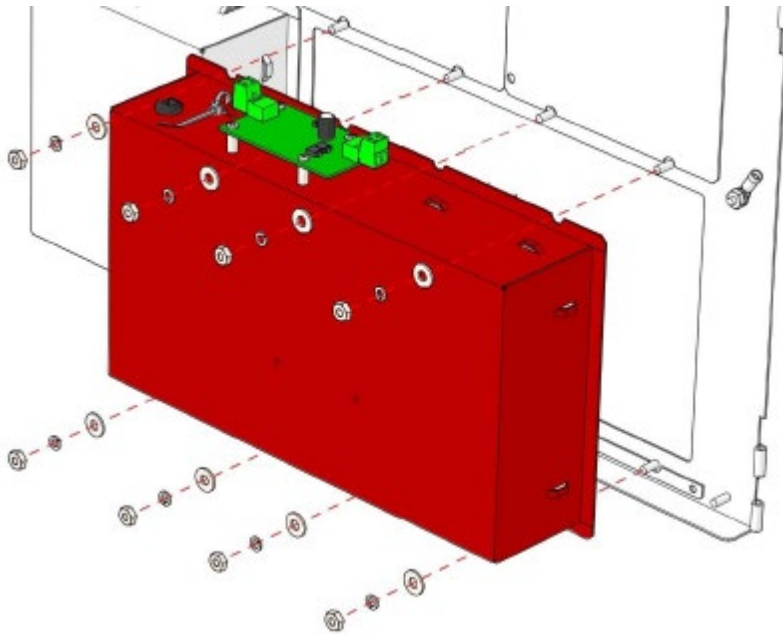

Figure 43 - NX10-TEL2-MCCS (/P) Firefighter Telephone Assembly Installation
1. Remove the eight (8) hex steel nuts, star lock washers and washers from the male studs of the left, third row double aperture location of the command centre inner door.
2. Place the NX10-TEL2-MCCS (/P) assembly between the male studs and secure with the removed eight (8) washers, star washers and hex steel nuts (Figure 43).